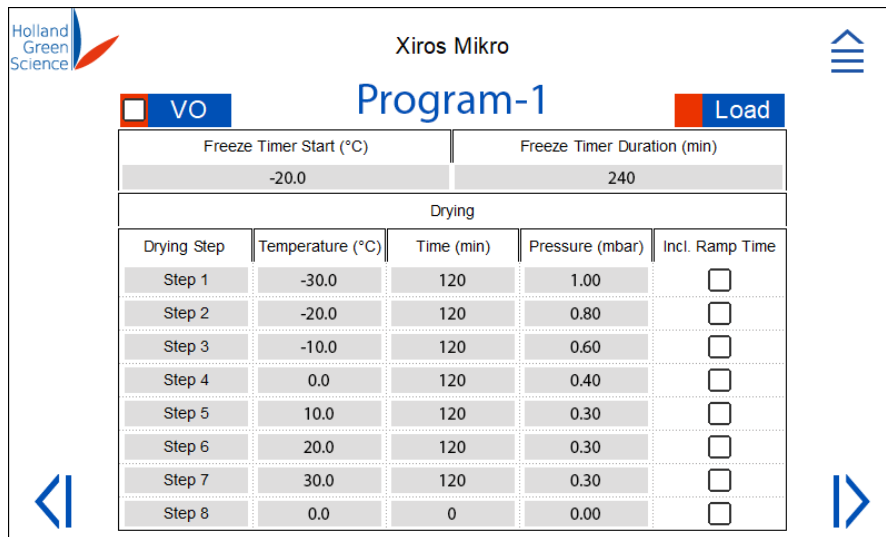

Figure 20
From the Program Selector screen discussed in chapter 8.2, tap on “Program 1” to enter the Program Editor screen, as shown in Figure 20.
In Figure 20 the entries are only an example, as the parameters are dependent on the product. VO is explored in “8.2.6 Program Vacuum Oven (VO)”.